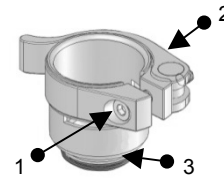

Figure 6: Nozzle Adapter (HNA-1)
1. Loosen clamp screw counterclockwise (Figure 6, 1)
2. Close the clamp (Figure 6, 2).
4. Tighten the clamp screw clockwise (Figure 6, 1) for firm fit of the adapter to the heater assembly. Once adjusted, removing the adapter is done by opening the clamp and sliding the adapter off the heater assembly.
2. To attach; screw the nozzle to the nozzle adapter (Figure 6, 3); tighten clockwise with Nozzle Wrench.
3. To remove; unscrew the nozzle from the adapter (Figure 6, 3); loosen counterclockwise with Nozzle Wrench.